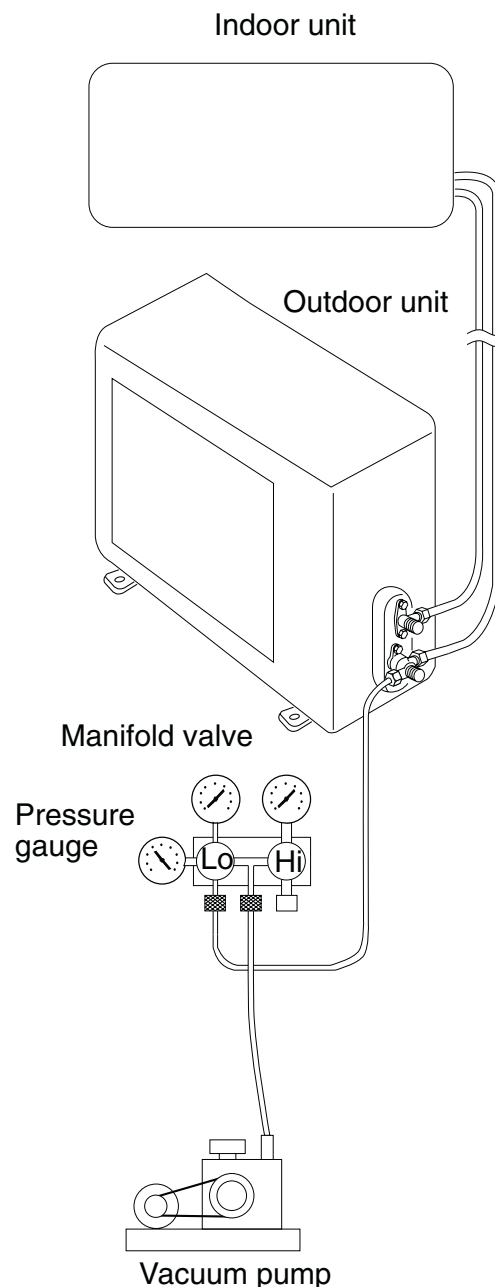

Fig.35
3. Connect a vacuum pump and a manifold valve (with pressure gauges) to the service port on the wide tube service valve. (Fig.35)